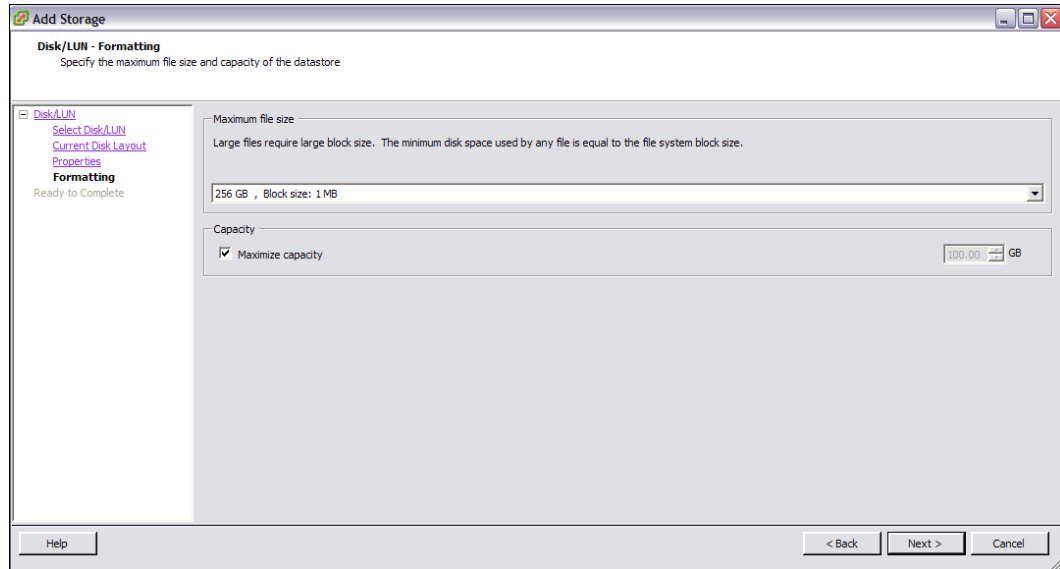

Figure 22-61 LUN formatting
- As shown in Figure 22-61 on page 694, select the appropriate LUN format settings and click **Next**.